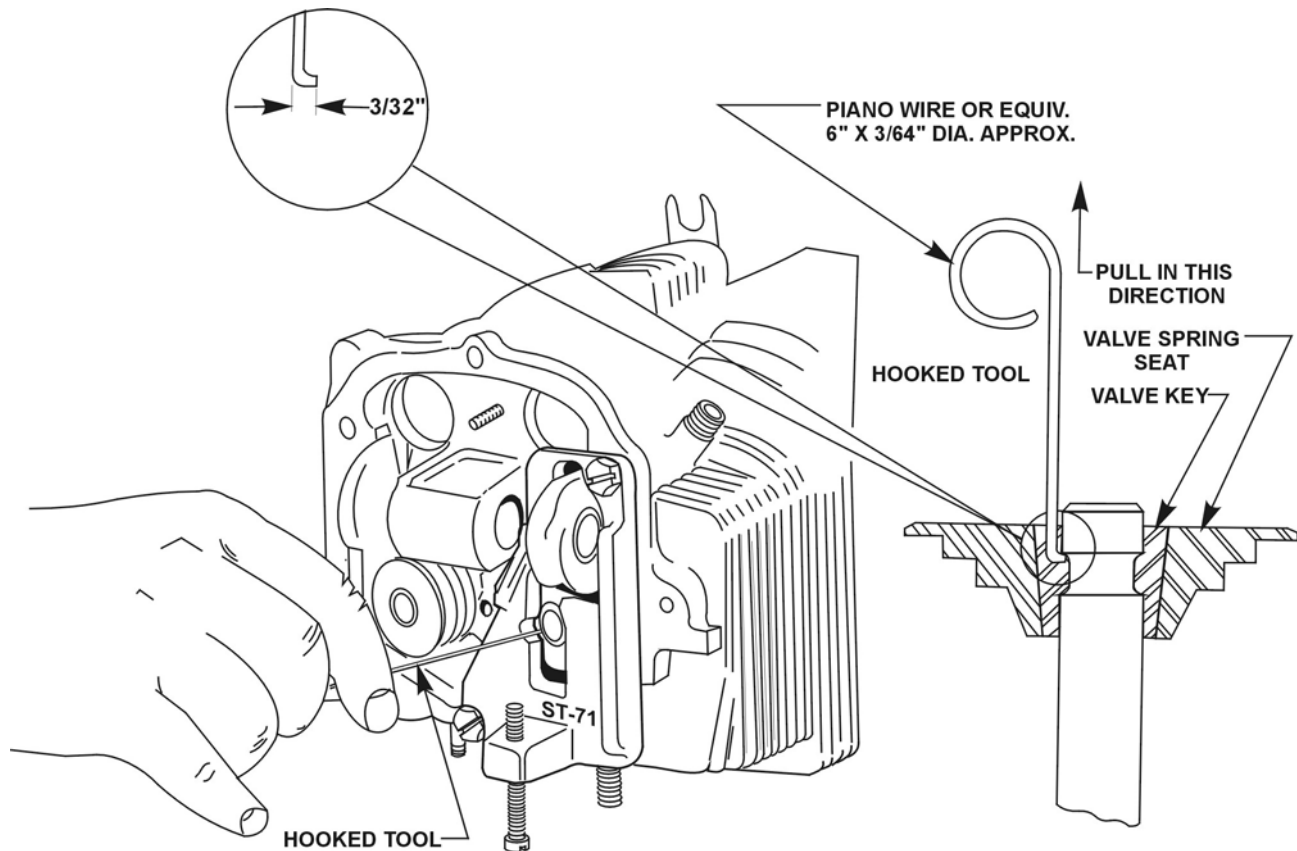

Figure 4. Method of Using Hooked Wire Tool to Pull Valve Into Position for Removal of Tapered Keys
8. Engines Equipped with Solid Stem Exhaust Valves: Remove the tapered valve retaining keys by moving the piston of the cylinder being inspected to near its top end of travel. This will eliminate any chance of the valve sliding into the cylinder after the tapered keys are removed. Fabricate a small hooked tool as shown in Figure 4 and insert it between the valve keys engaging the hook of the tool with the undersize of the valve tip as shown in Figure 4. Tap on the fixture with a plastic headed hammer while exerting a steady pull on the valve stem, with the hooked tool, until the valve keys release.